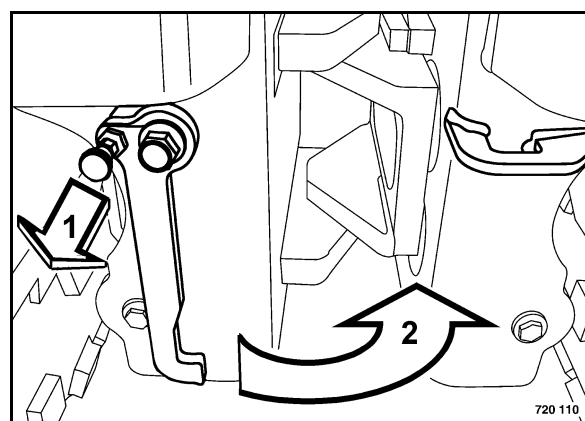

Fig. 85
- After driving the machine on the transport vehicle pull out the locking bolt (1) (Fig. 85) and engage the articulation lock in the locking eye (2). Let the locking bolt click into place.